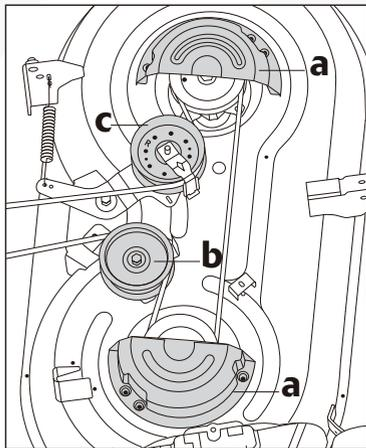

Fig. 26
2. Remove the two belt protective covers (a, Fig. 26) by removing the six screws that fasten them to the deck.
3. Remove the fixed pulley (b, Fig.26) and tension pulley (c, Fig.26).